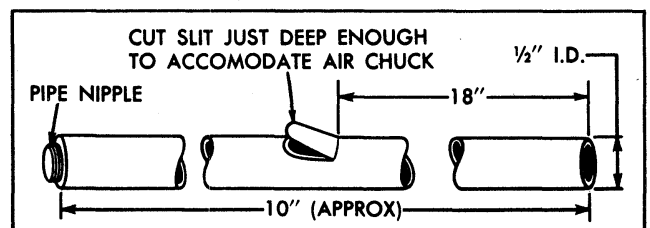

Fig. 8-4 Typical Drain Hose
1. Insert a length of hose (Fig. 8-4 for details) into the gas tank, pipe nipple end first, until weighted end of hose rests on bottom of tank.